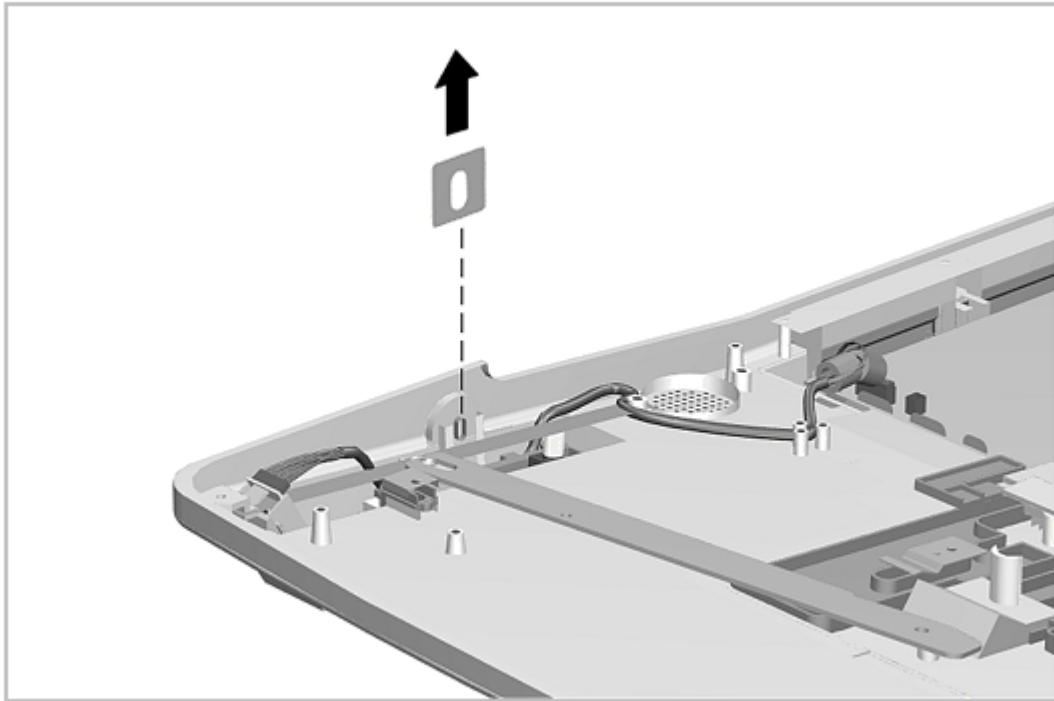

Figure 7-41. Removing the Security Lock Bracket
3. Use a flat-blade screwdriver to pry the bracket straight up, or use a small pair of pliers to grasp the bracket and pull it out (Figure 7-41).